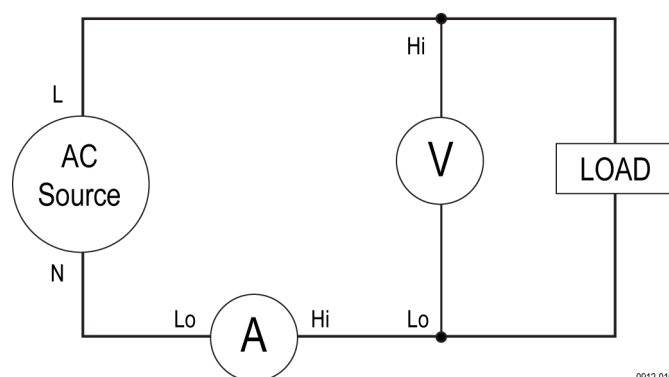

Figure 5: Typical PA1000 input connections
1. Input banana jacks – For safe operation, use only the test lead set supplied with the instrument. Typical connections for the power analyzer are shown later in this section. (See Figure 5 on page 9.)